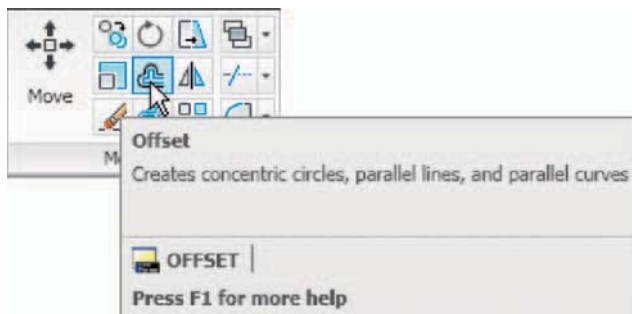
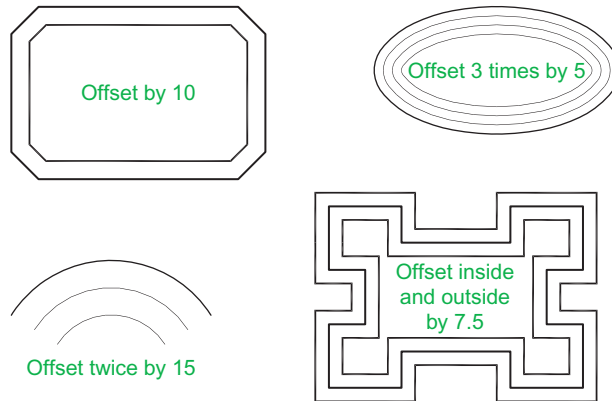

Fig. 5.12 The Offset tool from the Home/Modify panel
Fig. 5.14 Examples – Offset
Examples – Offset (Fig. 5.14)
2. Call the **Offset** tool – *left-click* on its tool icon in the **Home/Modify** panel (Fig. 5.12), *pick* the tool from the **Modify** toolbar, *pick* the tool name in the **Modify** drop-down menu, or *enter o* or *offset* at the command line. The command line shows:
- Repeat for drawings 2, 3 and 4 in Fig. 5.12 as shown in Fig. 5.14.